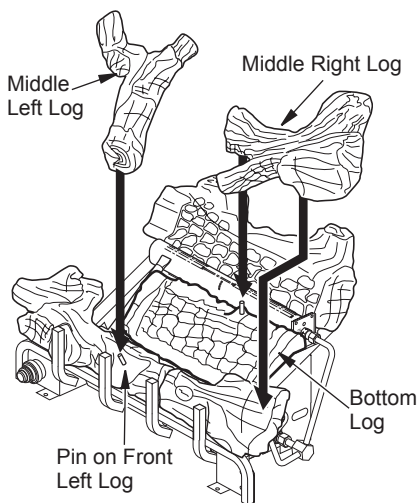

Figure 24 - Installing Log Sets
5. Place middle right log over front right and bottom logs as shown in Figure 24. Be sure hole in middle right log seats over pin in bottom log.
6. Place middle left log over front left and bottom logs as show in Figure 24. Be sure hole in middle left log seats over pin in front left log.